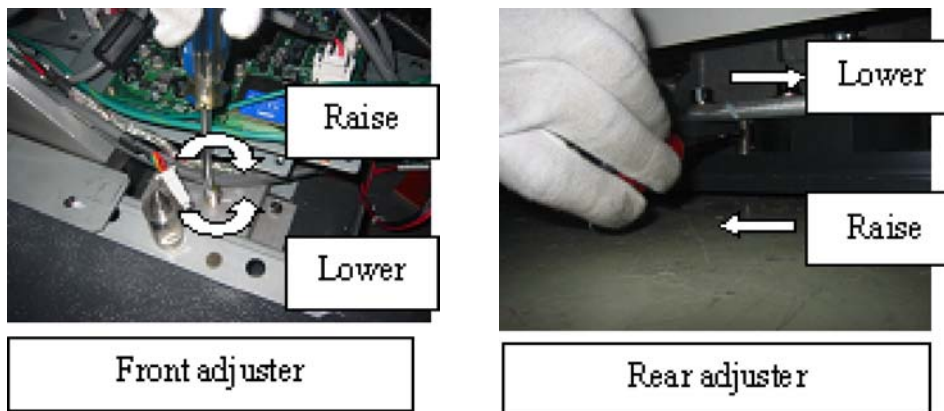

Figure 1-49 Front and Rear Adjuster
- c.) Level of the table influences a center position, The vertical laser alignment light must match and be centered on the white line on the front of the table and in the groove of back alignment plate. See Figure 1-49.